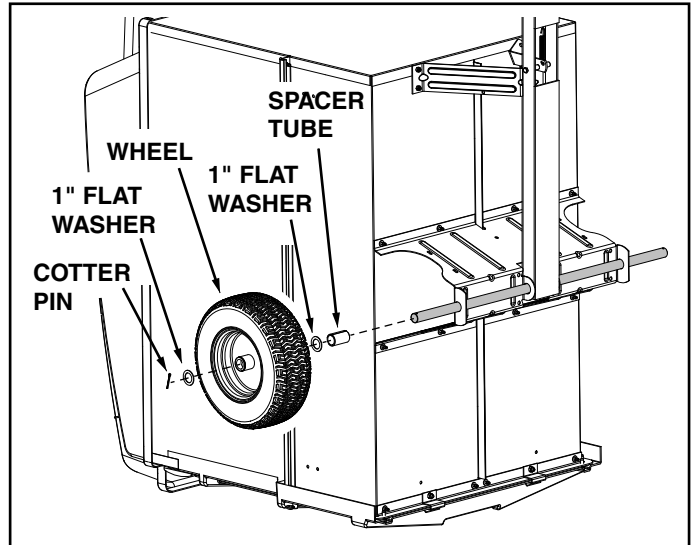

FIGURE 2
- 3. Assemble a spacer tube, a 1" flat washer, a wheel (valve stem facing out), and another 1" flat washer onto the axle as shown in figure 2. Secure the wheel with a cotter pin, spreading the ends so that a hub cap can fit over the pin. Assemble the hub cap by pressing it onto the flat washer. Repeat on other end of axle.